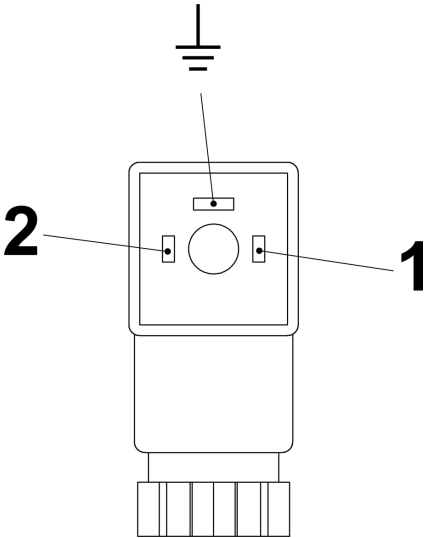
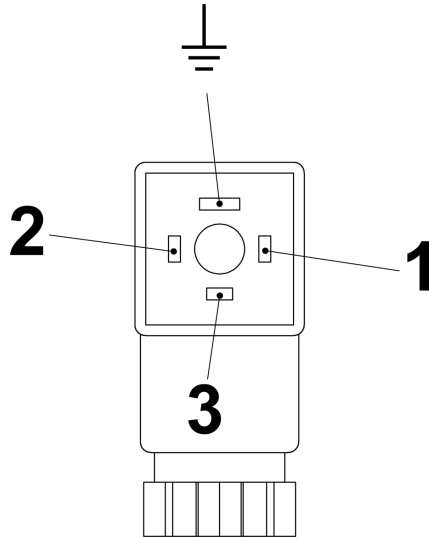

Fig. 25: Pin assignment, plug socket, normally-open contact (Form 15x50)
Fig. 26: Pin assignment, plug socket, change-over contact (Form 15x50)
6. ➔ Make the connections as shown in connection diagrams (Fig. 25 and Fig. 26)